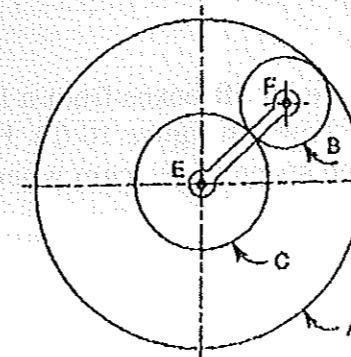

Fig. 14 (b)
- b) An epicyclic gear consists of three gears A, B and C as shown in Fig. 14 (b). The gear A has 72 internal teeth and gear C has 32 external teeth. The gear B meshes with both A and C and is carried on an arm EF which rotates about the centre of A at 18 rpm. If the gear A is fixed, determine the speed of gears B and C.